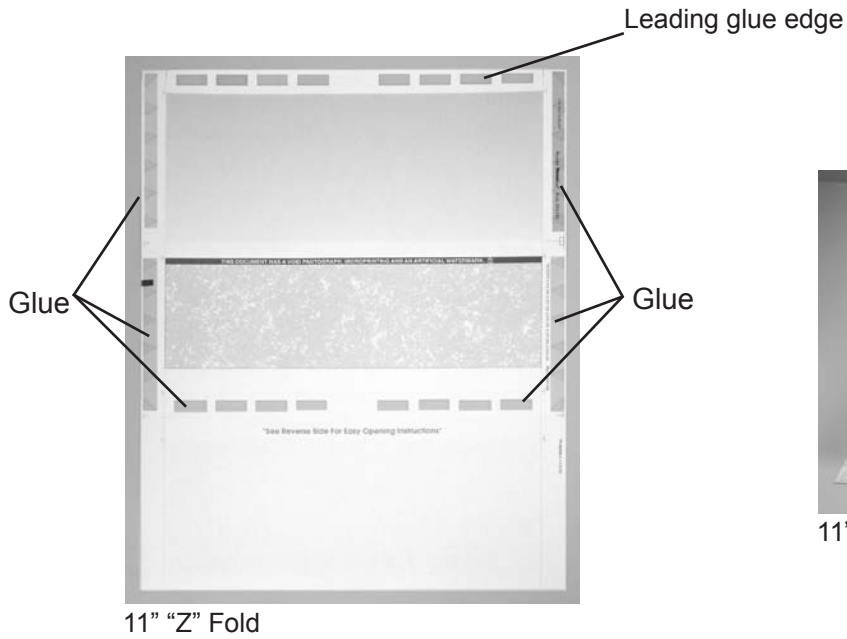

Figure 9
2. Check that the photo-eye, before the metal sealer rollers (see figure 9), is clear of forms and/or paper dust.